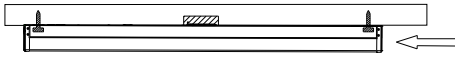

Figure 5
- Pushing the fixture toward left until the fixture fixed. (Figure 5)